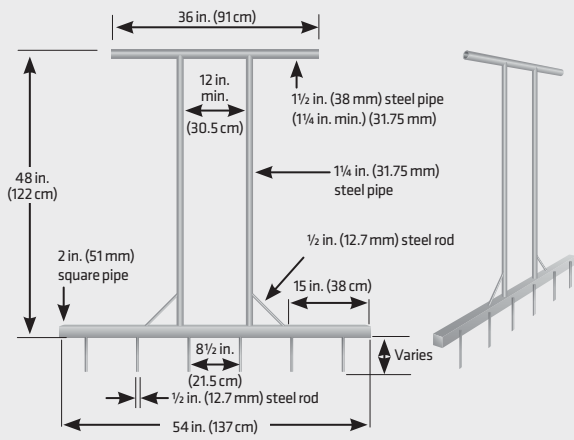

FIGURE 3: Sample configuration of steel rake for tensioning geogrid.
- ▶ Rake for tensioning geogrid (Figure 3)